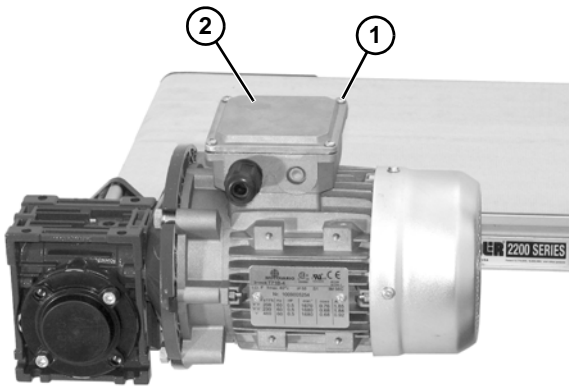

Figure 35
- a. Loosen terminal box screws (Figure 35, item 1) and remove cover (Figure 35, item 2).